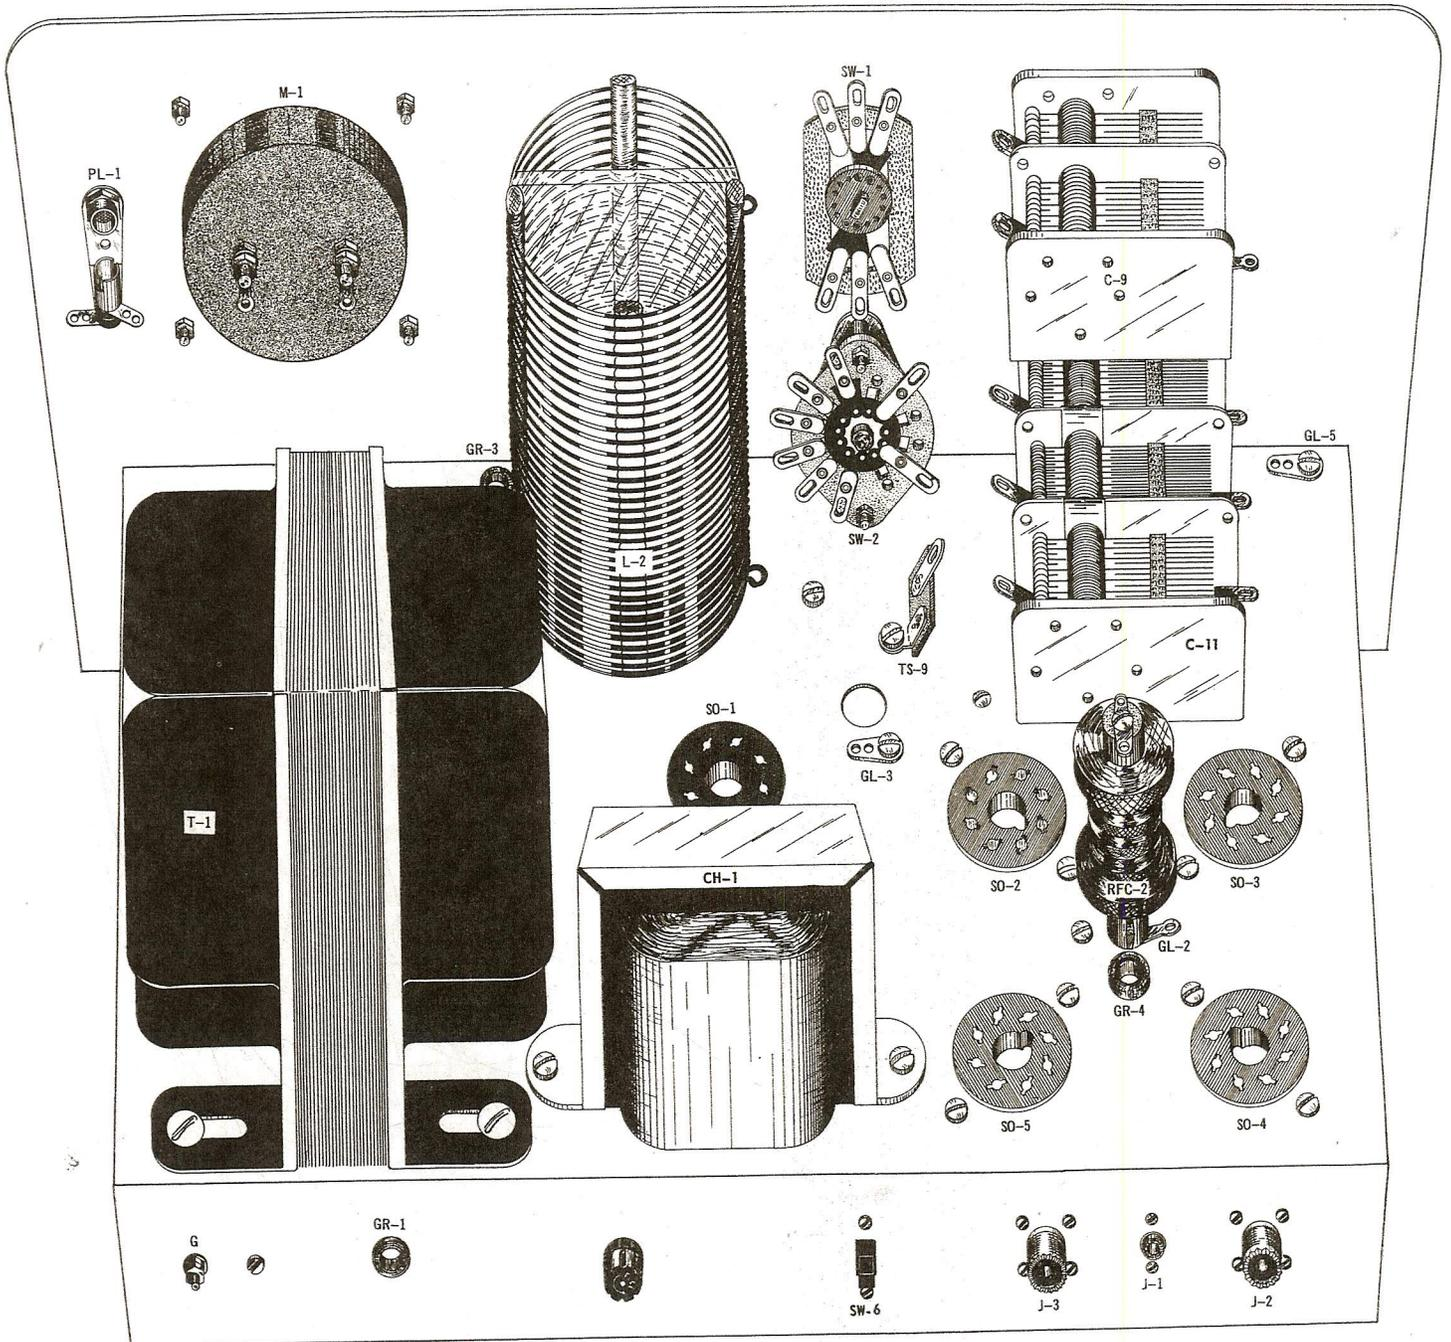
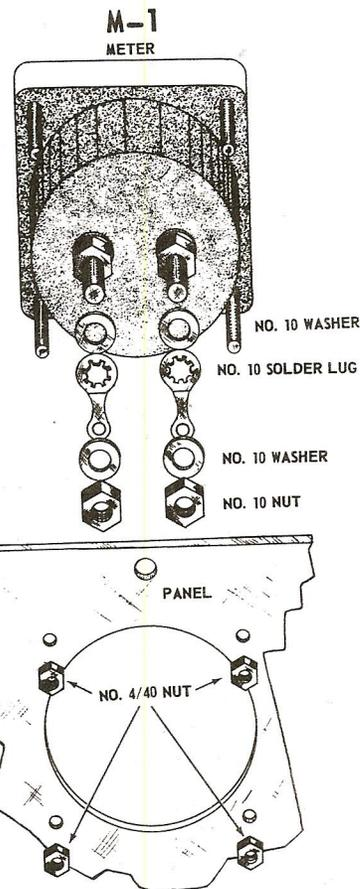

Figure 5. Top View, Parts Mounting.
Figure 7. Meter Mounting Detail.
- (d) Thread the R.F. choke on the screw. Position the choke and grounding lug as per Figure 5.
- 26. Mount the #6 grounding lug GL-3 on top of the chassis as per Figure 5. Use a 6-32x5/16" screw, a #6 lockwasher and a 6-32x1/4" hex nut. Tighten securely.
- 27. Mount the #6 grounding lug GL-5 on top of the chassis as per Figure 5. Use a 6-32x5/16" screw, a #6 lockwasher and a 6-32x1/4" hex nut. Tighten securely.
- 28. Mount the 1-lug tie strip TS-9 on top of the chassis, position as per Figure 5. Use a 6-32x5/16" screw, a #6 lockwasher and a 6-32x1/4" hex nut. Tighten securely.
- 29. Mount the three-gang variable capacitor C-11 on top the chassis. Position as per Figure 5. In this step, only the bottom front mounting screw is installed to hold C-11 in place. Use a 6-32x1/4" screw and a #6 lockwasher. Tighten securely.
36. Mount the coil L-2 on top of the chassis. Position as per Figure 5. Use two each 6-32x5/16" screws, #6 lockwashers and 6-32x1/4" hex nuts. Tighten securely.
- (e) Position the two solder lugs as per Figure 5 and tighten the #10 hex nuts securely. Refer to Figure 7 for Meter Mounting Detail.
- (e) Position the switch as per Figure 5 and tighten securely.
(f) Position the switch as per Figure 5 and tighten securely.
(d) Thread the hex nut on the threaded shank of the jewel, position the pilot light assembly as per Figure 5. Tighten securely.
42. Mount the variable capacitor C-9 on the panel with two each 6-32x3/16" screws and #6 lockwashers. Tighten the screws securely. Refer to Figures 5 and 11.